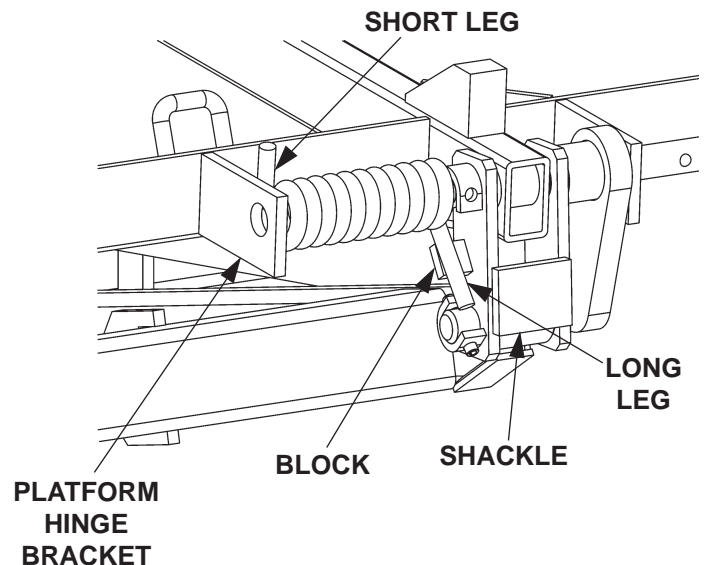

FIG. 19-2
5. Install the torsion spring as shown in (**FIG. 19-2**). Make sure the long leg of the spring is resting against the block on the shackle (**FIG. 19-2**). Make sure the short end of the spring is positioned as shown in **FIG. 19-2**.